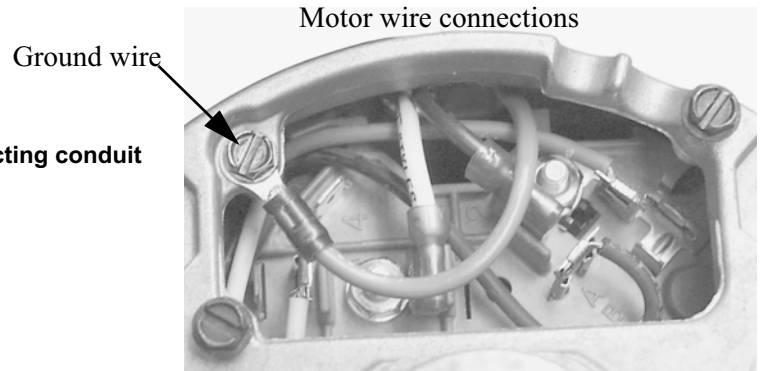

**Figure 36. Attaching the Anchor Plate and Gearhead Assembly to the Control Unit Body**
7. Attach the Anchor Plate and Gearhead Assembly to the Control Unit Body using the included 1/4" lock washers and 1/4-20 x 1/2" Bolts. See **Figure 36**.